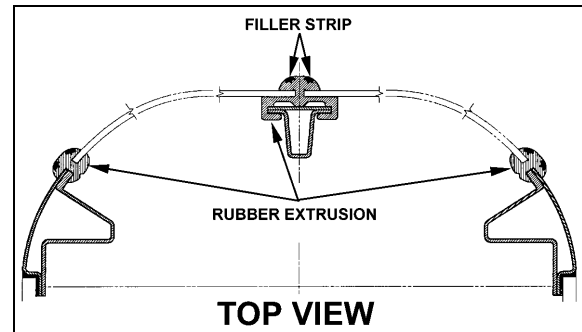

FIGURE 47: WINDSHIELD INSTALLATION TOP VIEW 18098
2. Insert rope into rubber extrusion leaving enough length at each corner to make a loop. Spray soapy water onto rope and rubber extrusion (Fig. 47).